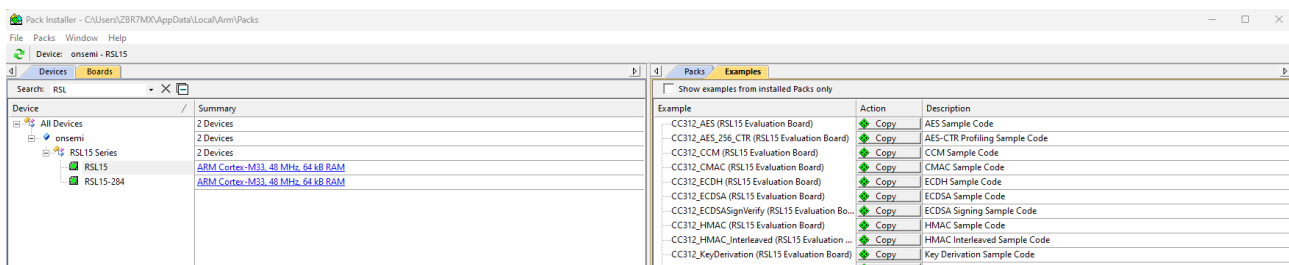

Figure 26. Pack Manager Perspective: Examples Tab
- Choose the example project called *blinky*, and click the **Copy** button to import it into your workspace (see the figure "Pack Manager Perspective: Examples Tab" (Figure 26)). Choose a destination folder for a copy of the sample code. We recommend leaving the **Launch  $\mu$ Vision** checkbox checked.